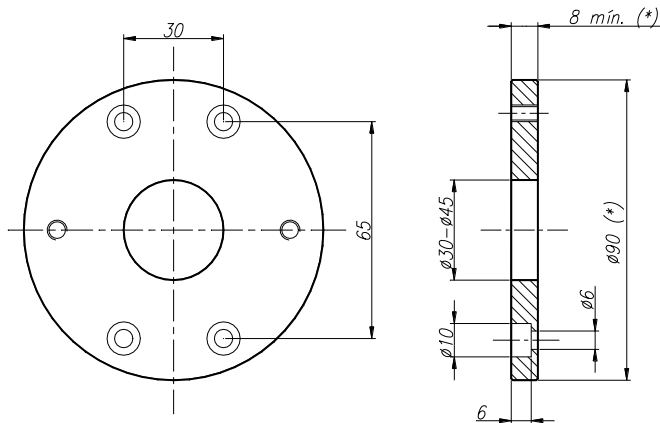
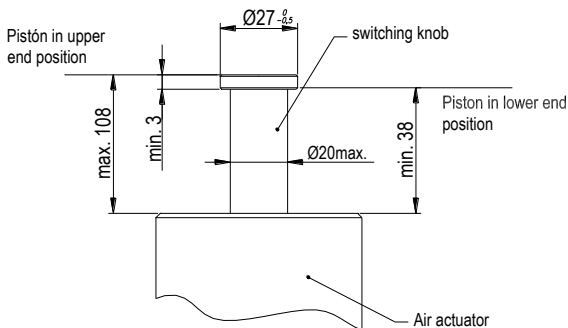

fig. 4.1 (suggested dimensions)
fig. 4.2
- **in valves made by other manufacturers.** Easy fitting, all you need to do is to fit an adaptation bracket (See Figure 4.1). In this case, the head position will depend on the type of valve to which it is to be fitted, though normally, it will be fitted to the upper part of the pneumatic drive. (The signal indicator must possess the dimensions that are given in Figure 4.2 and 4.3).